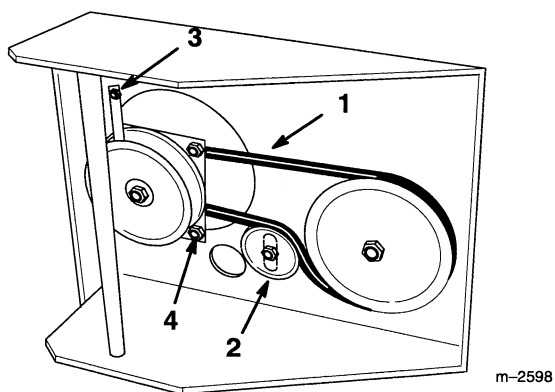

Figure 30
4. Remove left front engine mounting bolt securing clutch retainer to frame (Fig. 30). Unhook retainer from clutch and remove retainer.